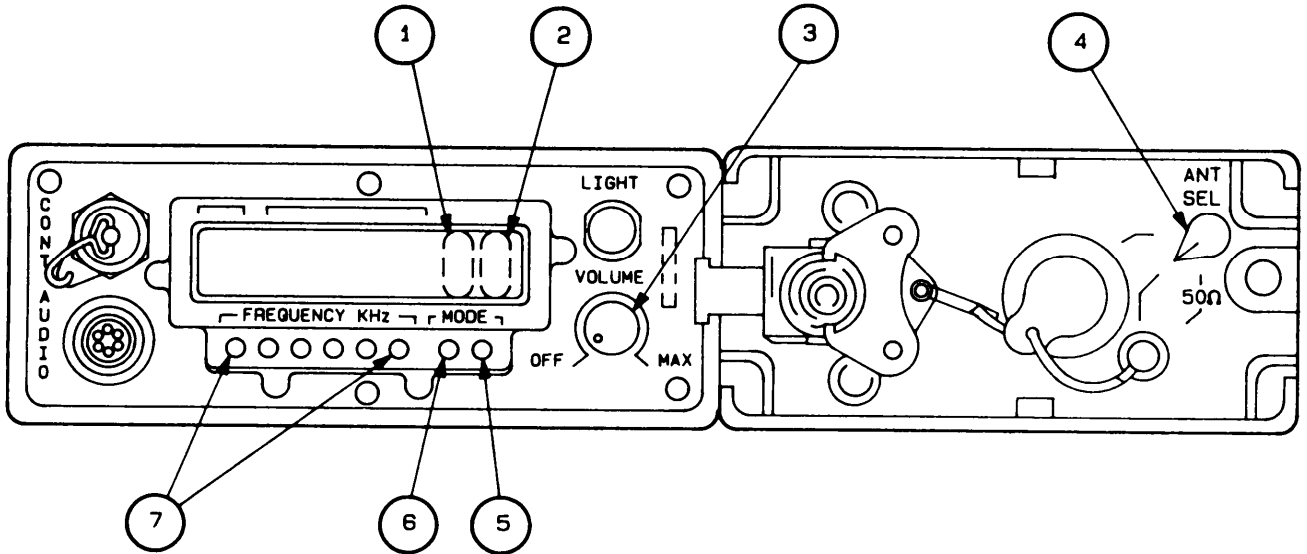

Figure 3-6. Single Sideband Operation
**SINGLE SIDEBAND OPERATION (1 of 2), fig 3-6**
**SHUTDOWN, fig 3-6**
1. Set **VOLUME OFF/MAX (3)** switch on RT to **OFF**.